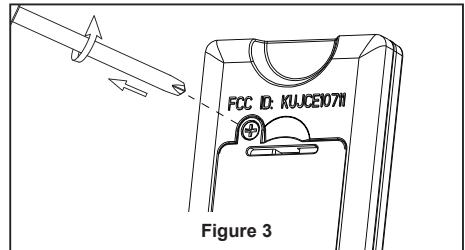

Figure 3
3. Remove one of the three screws in the switch housing assembly. Retain the screw for later and slightly loosen the remaining two screws. (Figure 3)
3. Remove the battery cover from remote control by screwdriver and retain the screw for later. (Figure 3)